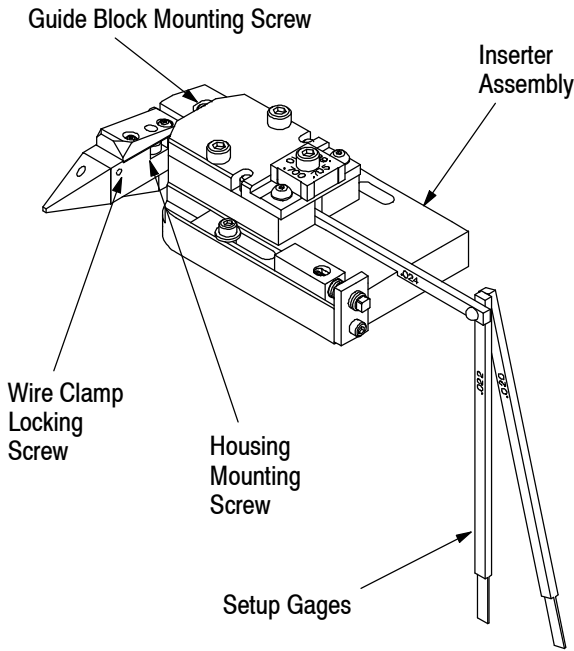

Figure 6
5. Locate the setup gage that is the same size as, or that is one size larger than, the measured wire. Insert the setup gage into the inserter assembly until the gage bottoms against the guide block. Refer to Figure 6.
### D. Wire Clamp Force (Figure 6)